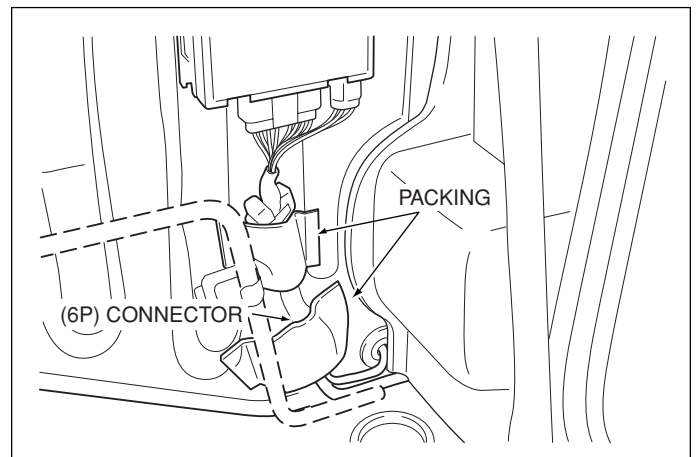

Fig. C7
- ➔ iii. Secure the fuse section of the (26P) connector kit harness to the rear cab wall using 1 piece of packing (foam tape). (Fig. C7)
- ➔ iv. Secure the excess wire loop and the (6P) connector to the floor using (2) pieces of packing (foam tape) as shown. (Fig. C7)